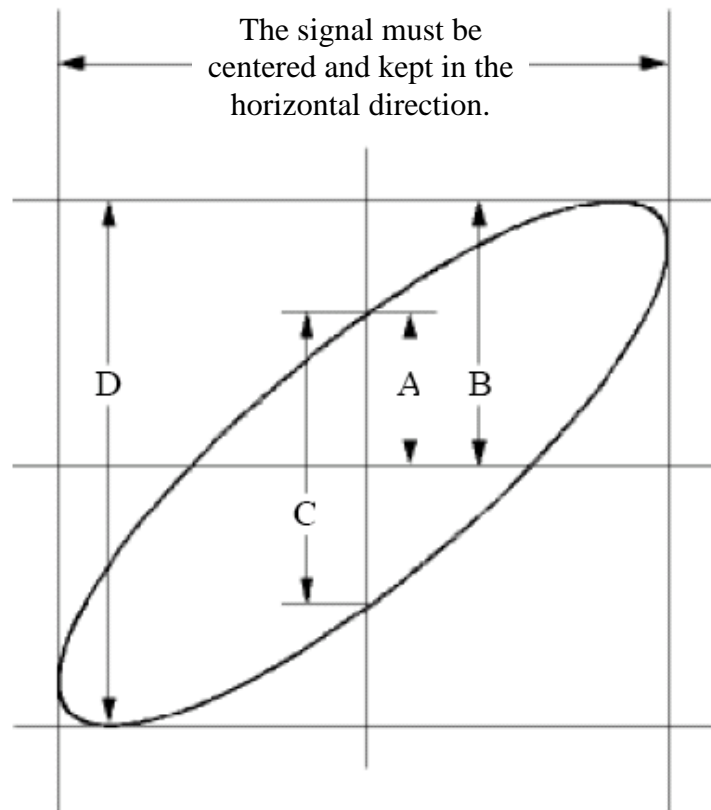

Figure 7-6 Lissajous Graph
(8) Turn the **VOLTS/DIV** and **VERTICAL POSITION** knobs, optimizing the waveform.
(9) With the elliptical oscillogram method adopted, observe and calculate the phase difference (see *Figure 7-6*).